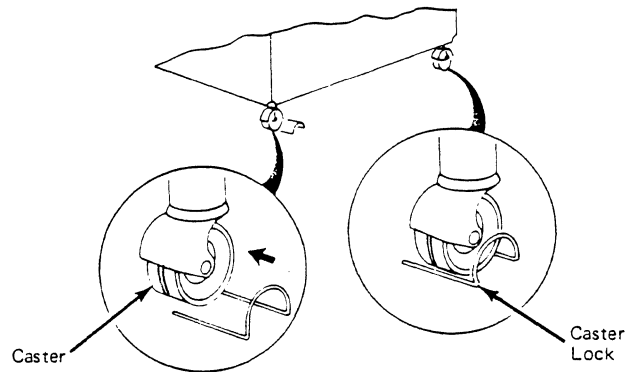

Figure 7-1. Placing Caster Locks on the Casters
1. Place the caster locks on the casters (PN 184886) (Figure 7-1).